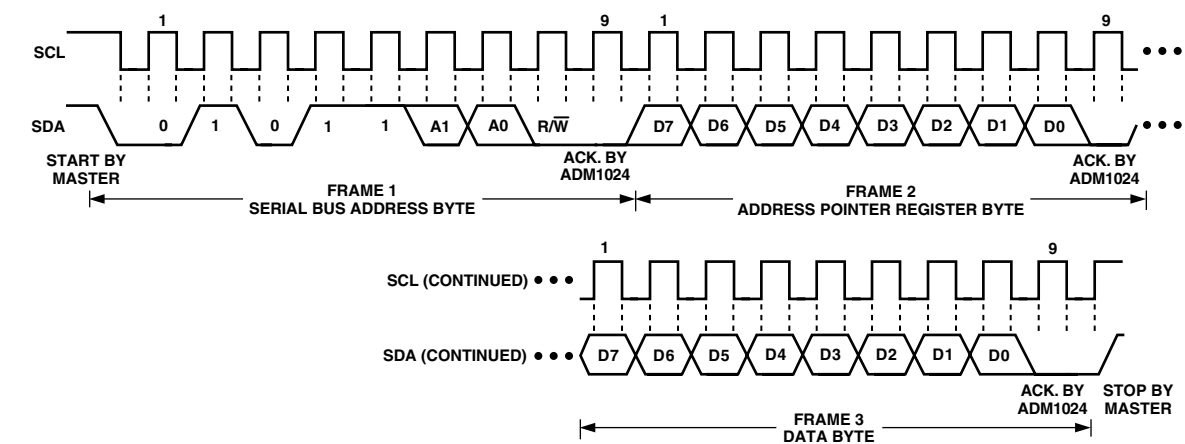

Figure 2a. Writing a Register Address to the Address Pointer Register, then Writing Data to the Selected Register
selected by the Address Pointer Register. This is illustrated in Figure 2a. The device address is sent over the bus followed by $R/\overline{W}$ set to 0. This is followed by two data bytes. The first data byte is the address of the internal data register to be written to, which is stored in the Address Pointer Register. The second data byte is the data to be written to the internal data register.
2. In Figures 2a to 2c, the serial bus address is shown as the default value 01011(A1)(A0), where A1 and A0 are set by the three-state ADD pin.